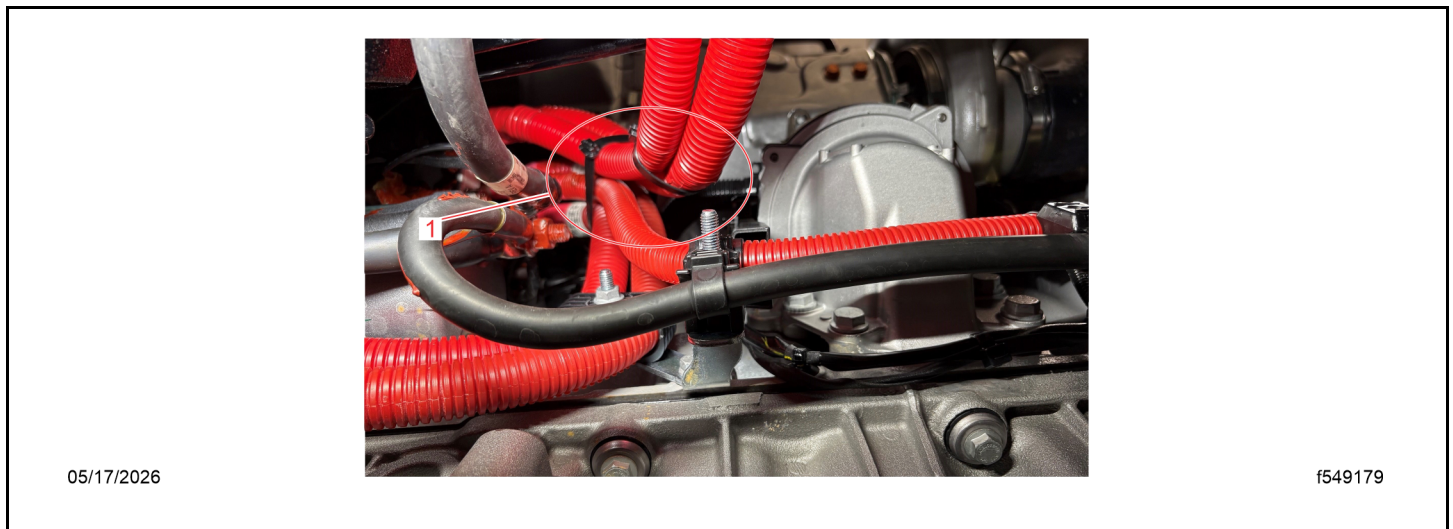

Fig 151, Securing the Cables
33. Route the jump-start auxiliary BCA cables next to the other heavy positive cable(s) from the starter to the lower frame rail support bracket. See Fig. **Fig. 151**.